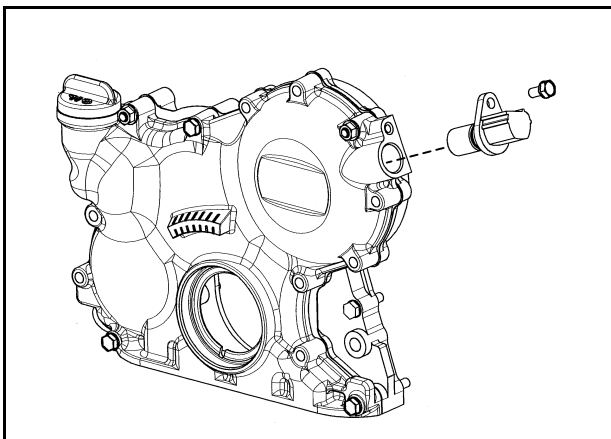

Fig. 7 - Removing Cam position sensor
(1) Remove a bolt and remove Cam position sensor.Fig.7